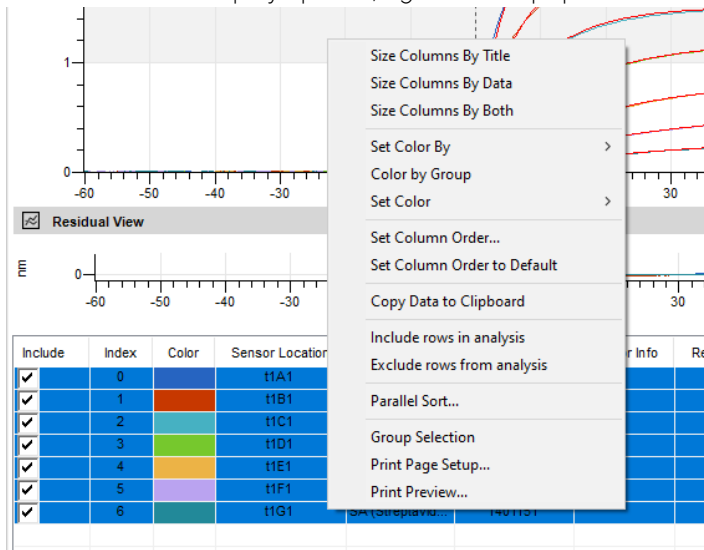

Figure 5-45: Analysis Results Table Menu
- To view table display options, right-click a populated table row or column to see the menu (Figure 5-45).